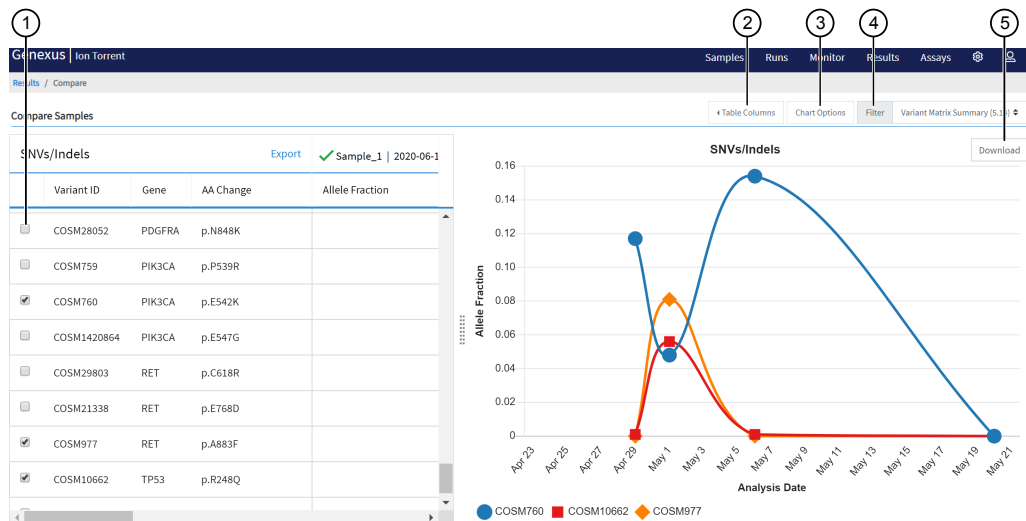

Figure 1 Compare variants
- In the **Compare Samples** table, select the checkbox in the row of one or more variants of interest to view the variants plot (see callout 1 in Figure 1).
Customize table columns	Click Table Columns , then select the columns that you want to view in the table, or deselect the columns that you want to hide (see callout 2 in Figure 1).
Customize plot axes	Click Chart Options (see callout 3 in Figure 1). In the Preferences dialog box, select the desired X-axis, then select the desired Y-axis for each variant type.
Change the default filter	From the Filter dropdown list, select a filter that you want to apply to the variants that appear in the Compare Samples table (see callout 4 in Figure 1). For a description of system-installed filters, see “System-installed filter chains” on page 68.
- To download the variants plot in PNG format, click **Download** (see callout 5 in Figure 1).